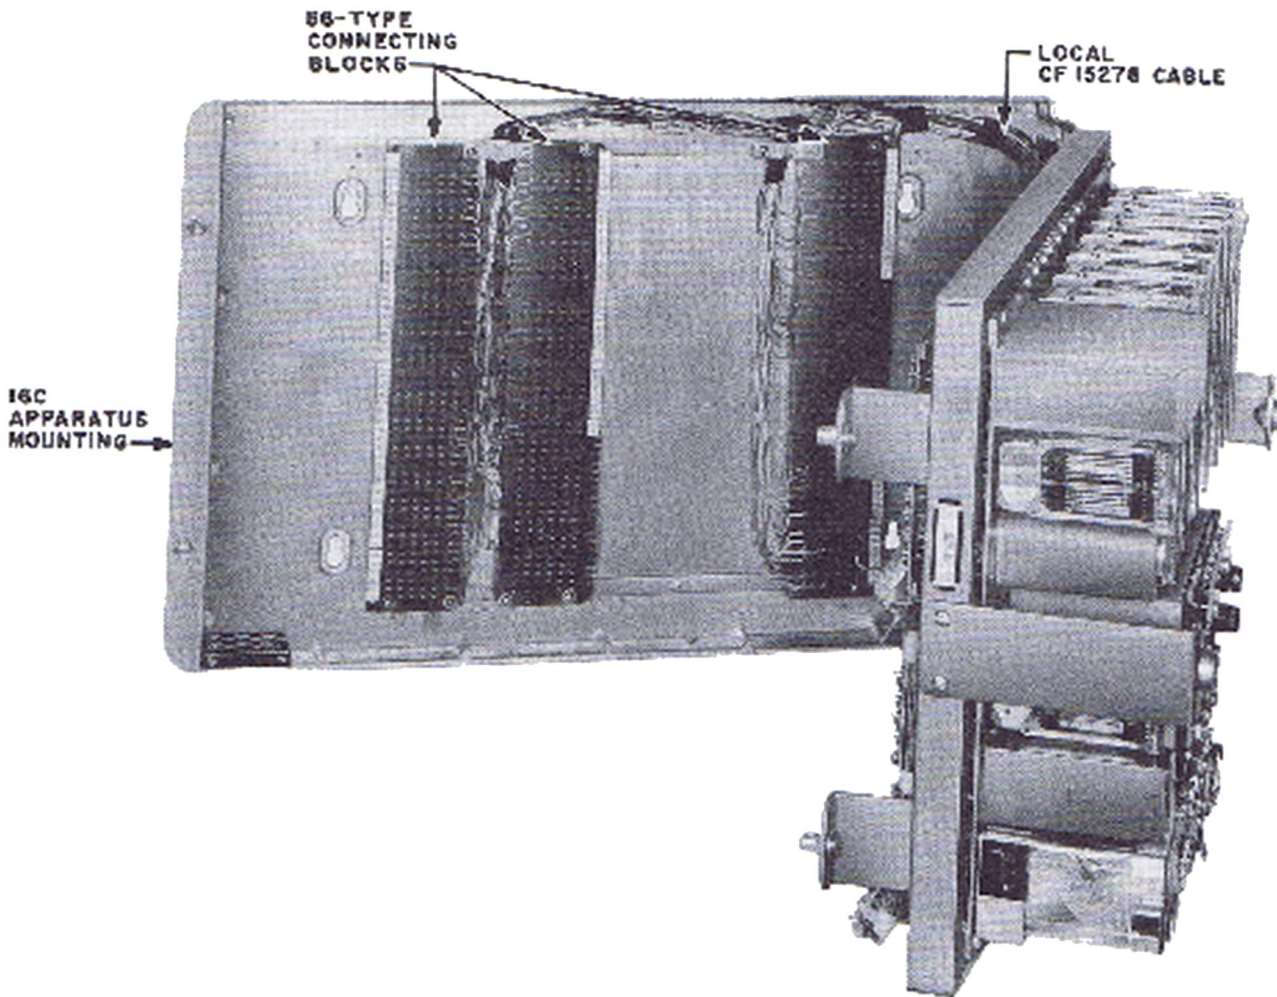

Fig. 5 – 311A8D KSU, Gate Open
2.20 Fig. 5 shows the 311A8D key service unit with the 66-type connecting blocks.